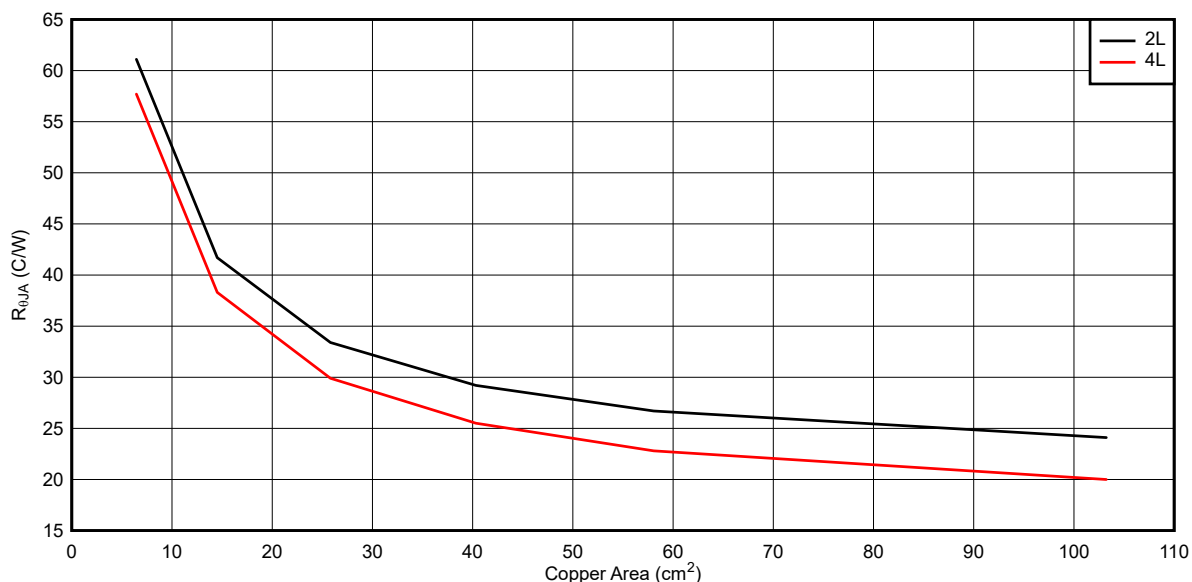

Figure 9-15. Typical $R_{\theta JA}$ vs Copper Area
The LM5012 features a die attach paddle, or "thermal pad" (EP), to provide a place to solder down to the PCB heat-sinking copper. This feature provides a good heat conduction path from the regulator junction to the heat sink and must be properly soldered to the PCB heat sink copper. Typical examples of $R_{\theta JA}$ can be found in Figure 9-15. The copper area given in the graph is for each layer. The top and bottom layers are 2-oz. copper each, while the inner layers are 1 oz. Remember that the data given in this graph is for illustration purposes only, and the actual performance in any given application depends on all of the previously mentioned factors.
To continue with the design example, assume that the user has an ambient temperature of 70°C and wishes to estimate the required copper area to keep the device junction temperature below 125°C, at full load. From the curves in Figure 9-3, an efficiency of about 92% was found at an input voltage of 48 V with output of 12 V with 1.75-A load. The efficiency is somewhat less at high junction temperatures, so an efficiency of approximately 90% is assumed. This gives a total loss of about 2.3 W. Subtracting out the conduction loss alone for the inductor and catch diode, the user arrives at a device dissipation of about 1.54 W. With this information, the user can calculate the required $R_{\theta JA}$ of about 30°C/W. Based on Figure 9-15, the required copper area is about 40 cm², for a two-layer PCB.